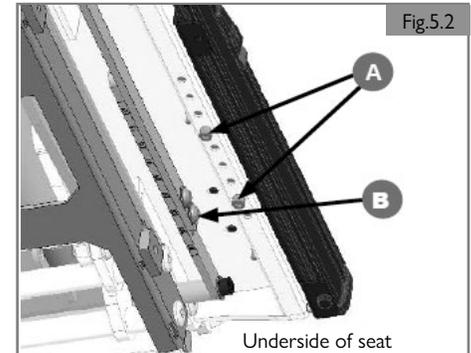
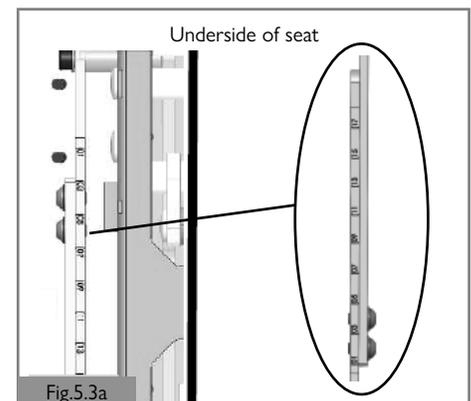
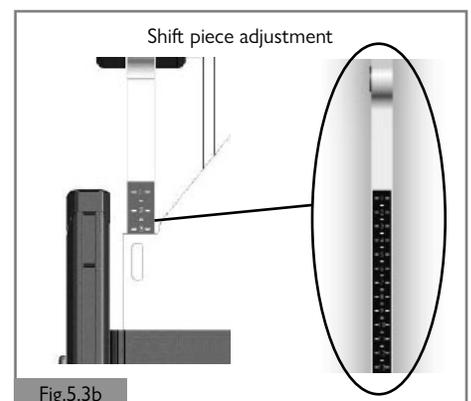

Fig.5.2
Fig.5.3a
Fig.5.3b
### 5.3 Set seat depth (Fig. 5.2, Fig. 5.3a, and Fig. 5.3b)
2. Remove the 2 screws (A) on the bottom of the double tilt module.
3. Remove the two screws (B) from the armrest linkage.
5. Align the back so it is lined up with a number on the shift piece. Align the end of the armrest bar to the same number and reattach the bolts. (Fig. 5.3a and 5.3b)